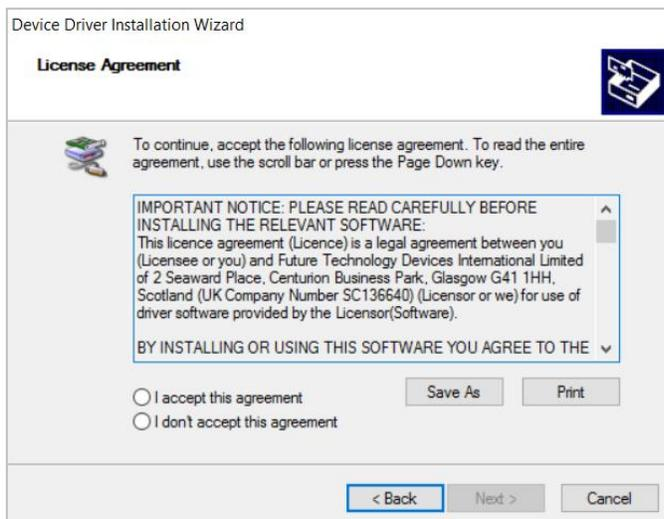

Figure 2-5: FTDI License Agreement
8. Select the **I accept this agreement** option, then click the **Next** button as Figure 2-5 shows if you agree the FTDI license agreement.